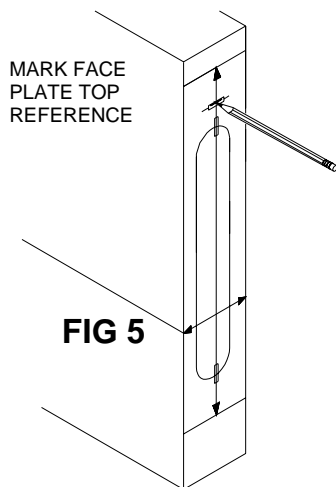

FIG 5
e. Center the Door Edge portion of the Template on the Door edge and align the horizontal Locator points with the horizontal line drawn on the Door. Mark the top and bottom points of the Case Mortise and the Face Plate top reference as illustrated in Fig.5.